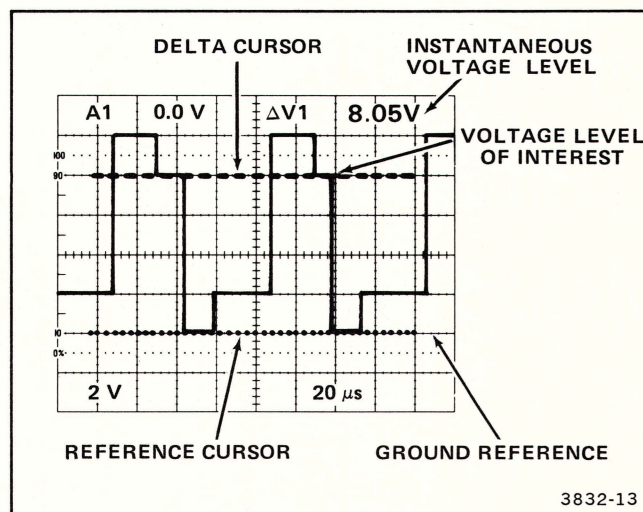

Figure 6-1. Instantaneous dc levels.
7. Position the two cursors on the desired points of the waveform (see Figure 6-1).